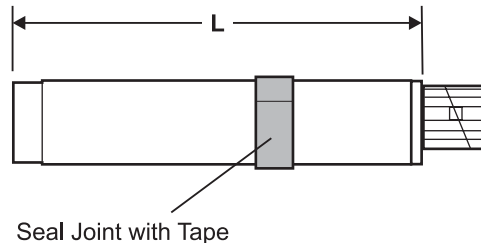

Fig. 16
- Determine the overall length (L) of flue required, (see Fig. 16) as follows:-